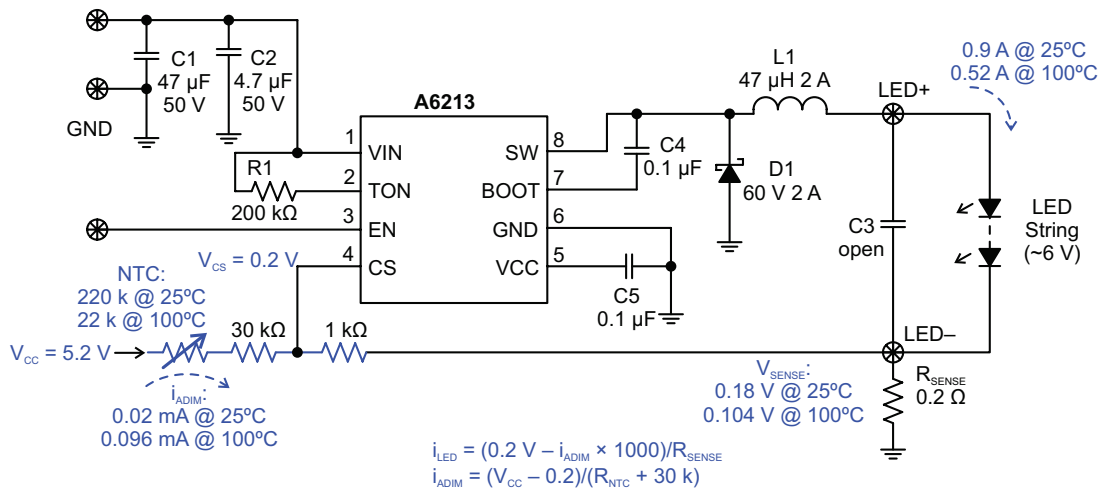

Figure 19: Thermal Foldback of LED Current Using NTC Resistor
- Figure 19 shows thermal de-rating of LED current by an NTC resistor